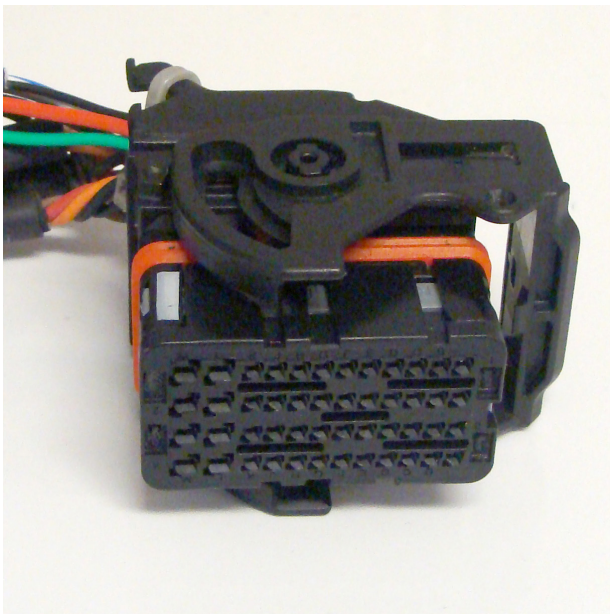
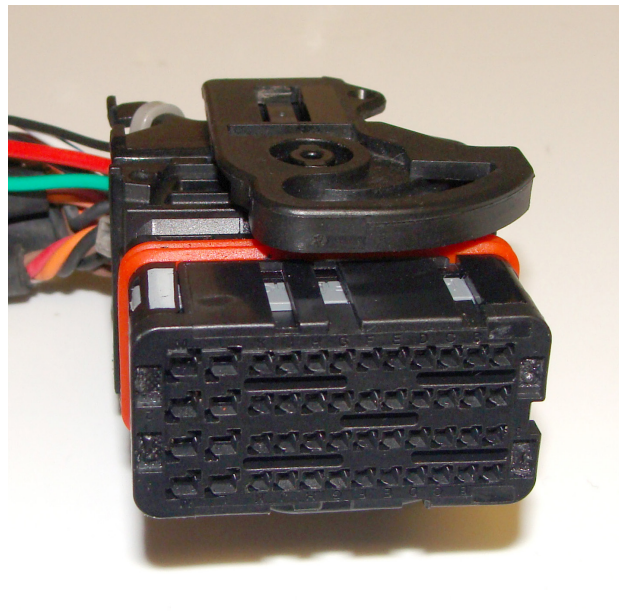

Figure 44: Open Position
Figure 45: Locked Position
6. Rotate the clip from the open position (Figure 44) to the locked position (Figure 45) until you hear a click.